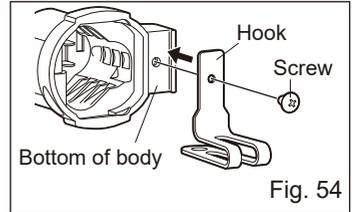

Fig. 54
- Attaching the hook. (Fig. 54)
If you use the hook upside down, place the hook as you like (Fig. 54 or 55), and tighten it with a screw.